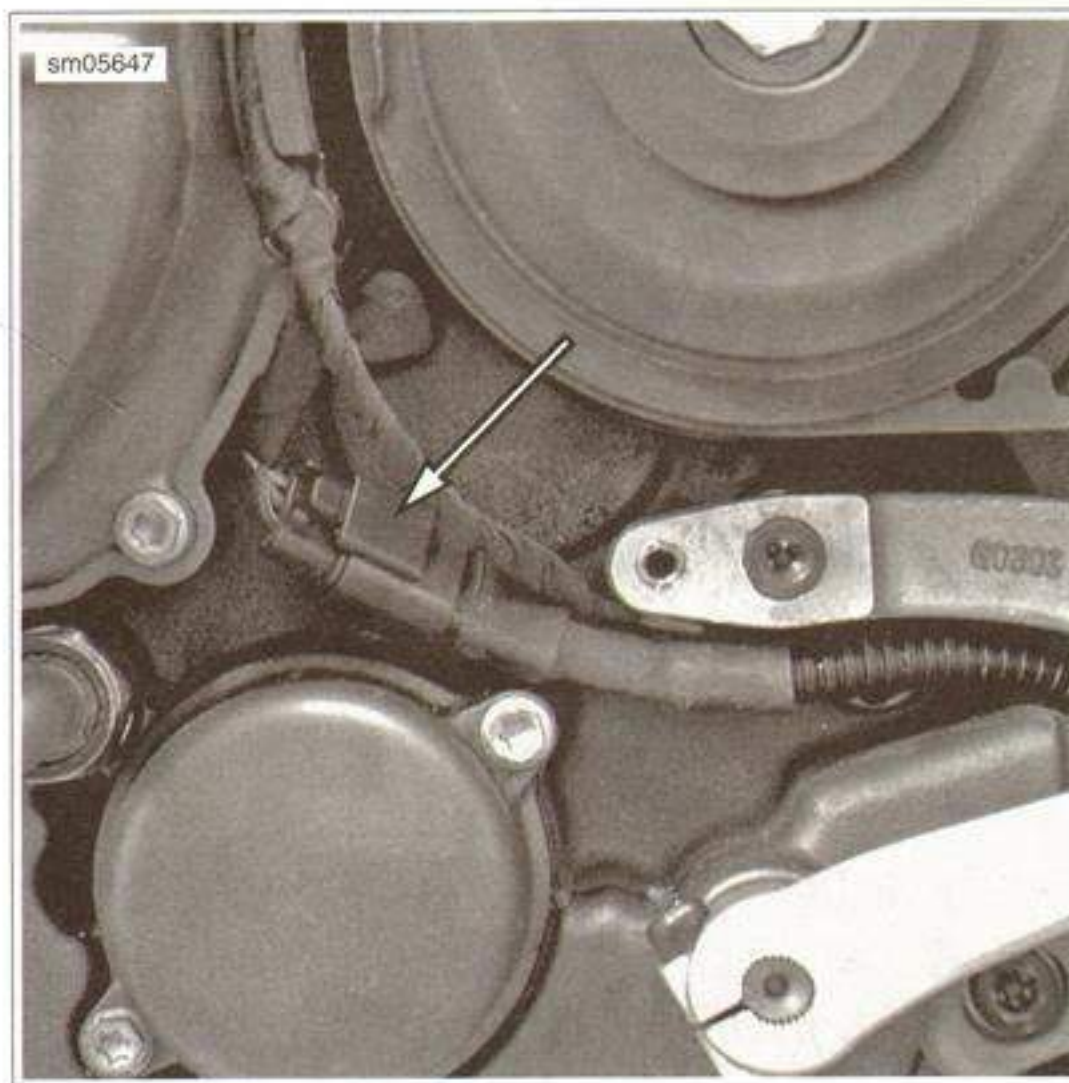

Figure 7-87. Sidestand Sensor Connector [133]
2. See Figure 7-87. Separate the sidestand sensor [133] connector housings.